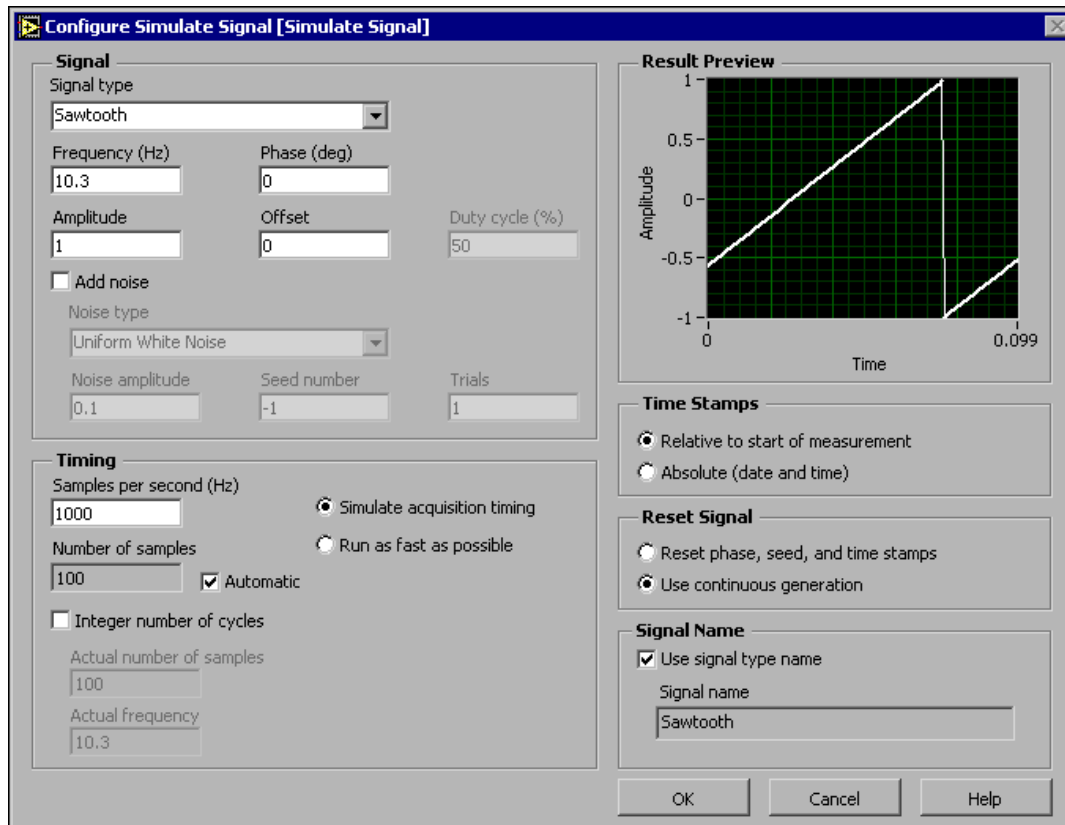

Figure 2.20
3. Select **Sawtooth** from the **Signal type** pull-down menu. Notice that the waveform on the graph in the **Result Preview** section changes to a sawtooth wave. The **Configure Simulate Signal** dialog box should appear similar to Figure 2.20.
6. -----↑----- When a double-headed arrow appears, shown at left, click and drag the border of the Express VI until the **Amplitude** input appears. Notice how you expanded the Simulate Signal Express VI to display a new input. Because the **Amplitude** input appears on the block diagram, you can configure the amplitude of the sawtooth wave on the block diagram. In Figure 2.20, notice how **Amplitude** is an option in the Configure Simulate Signal dialog box. When inputs, such as **Amplitude**, appear on the block diagram and in the configuration dialog box, you can configure the inputs in either location.